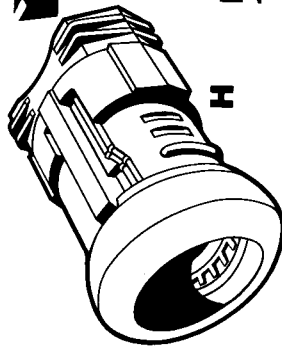

FIG. 7
1. Remove the **Retainer Ring (M)** from the **Rotating Gun Turret**, releasing the pod.
2. Remove the pod from the main body and place it onto the retainer ring to form a landing capsule as shown in FIG. 7.